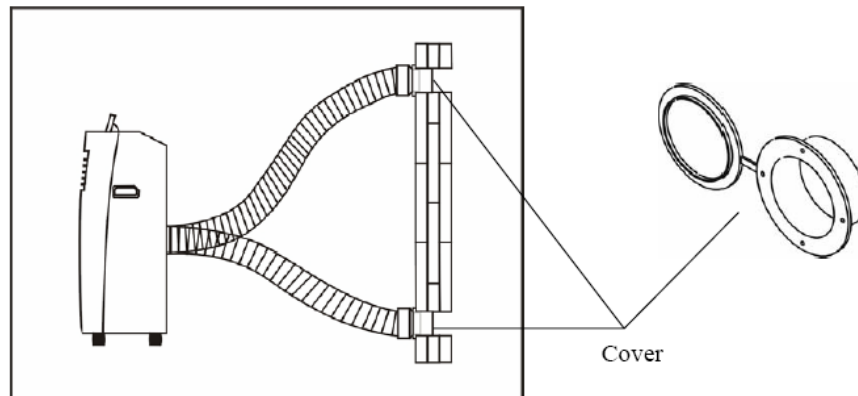

Fig. 5
5. Permanent installation (Fig. 5)